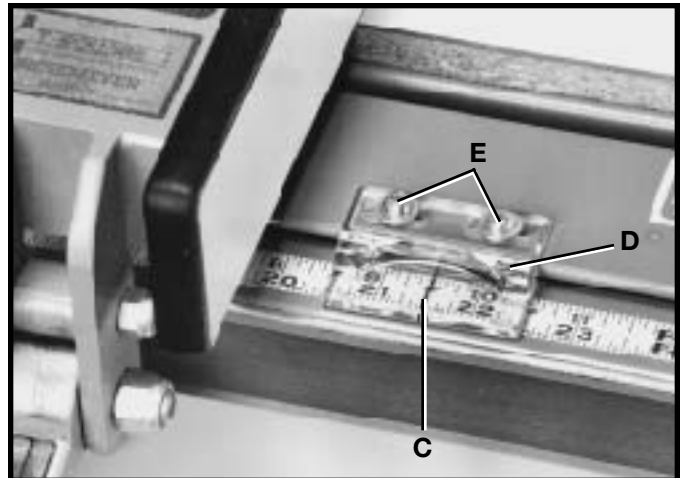

Fig. 61
2. The distance the fence is positioned away from the blade is indicated by the witness line (C) Fig. 61, located on the cursor (D). If it is necessary to adjust the cursor (D), make a test cut with the fence locked in position. Measure the width of the finished cut and adjust the cursor (D) by loosening the two screws (E), adjusting the cursor (D) until the witness line (C) is aligned with the same marking on the scale as the finished cut. Then tighten the two screws (E).